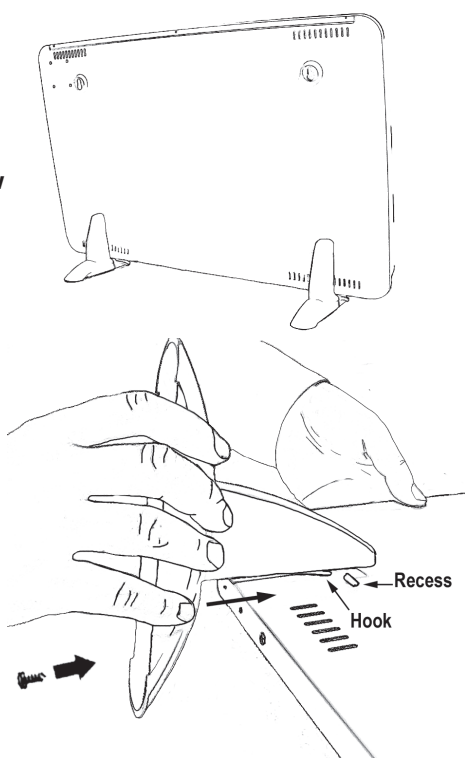

Fig. 1
Free Standing Operation (see Fig. 1)
3. Place feet over base of heater, align holes and engage hook on foot into the recess on the back of the heater - see Fig. 1.